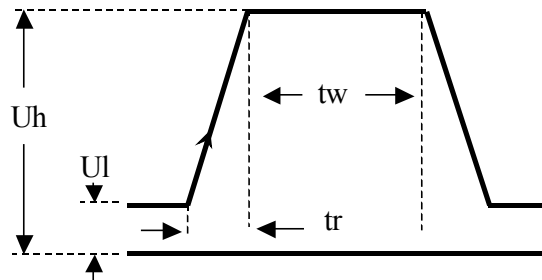

Figure III-5
- d) Make sure that the TTL signal on the flashlamp input is as described in figure III-5 of the chapter III user manual version 5.
The input resistance is about 400 Ohms, and the features of the signal are shown on figure III-5. Rising edges are active edges.